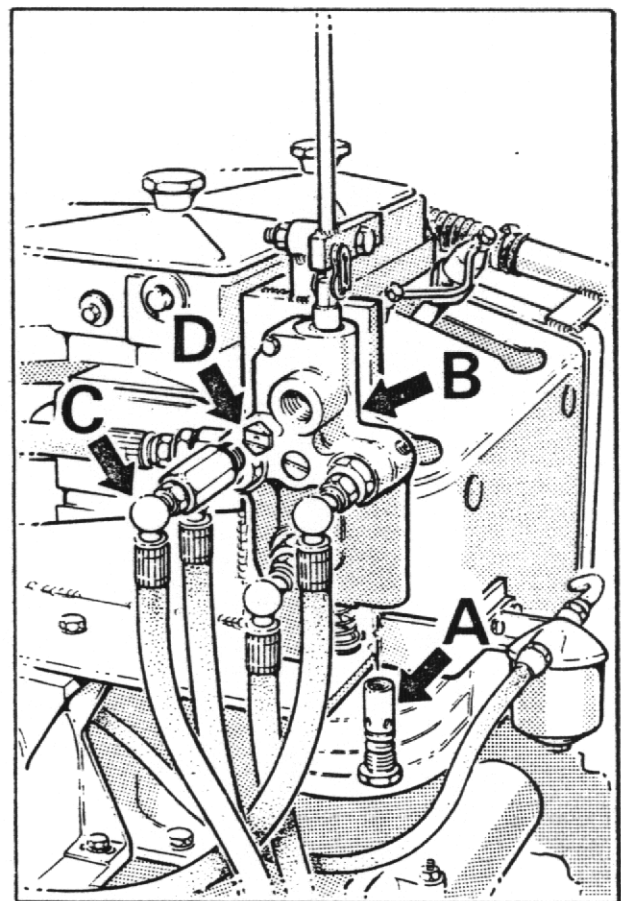

FIG. 9
4. Remove relief valve cartridge (A) (hexagon head) from the bottom of the control valve (B) (See Fig 9), and replace with a new one.
5. Remove hose adaptor (C) from control valve (See Fig 9), remove hexagonal orifice plate (D) and wash in white spirit. Dry using moisture-free compressed air. DO NOT poke wire etc. into the orifice. Re-fit plate and hose adaptor with slot of orifice plate facing outwards.